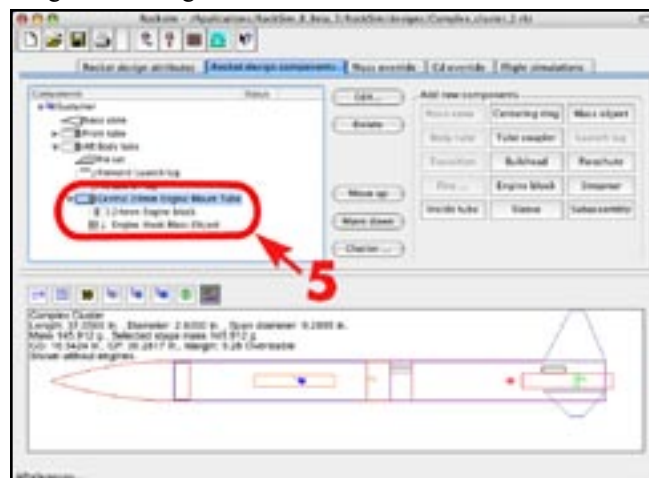

Figure 5
5. To speed things up, I'm combining basic steps here, but go ahead and add any parts associated with the central engine mount tube at this time. In Figure 5, you'll see I've added an engine block, and a mass object to account for the weight of the engine hook.